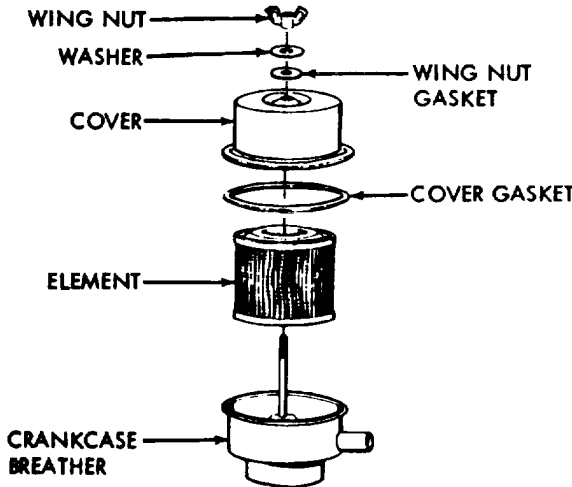

Figure 3-137. Crankcase breather-bottle stopper type.
1. To disassemble, remove nut (figure 3-137), flatwasher and gasket securing cover and element assembly to breather.